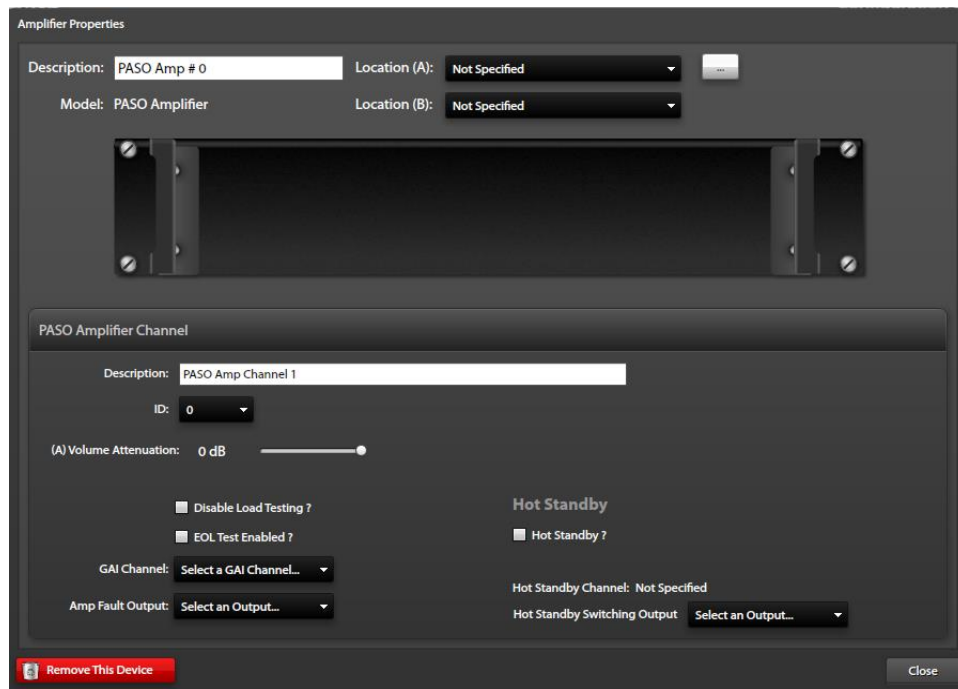

Figure 29. PASO Amplifier Properties
- Click on the PASO amplifier, from the **AMPLIFIERS SUMMARY** screen, to open the **AMPLIFIER PROPERTIES** window for that amplifier (see Figure 29).